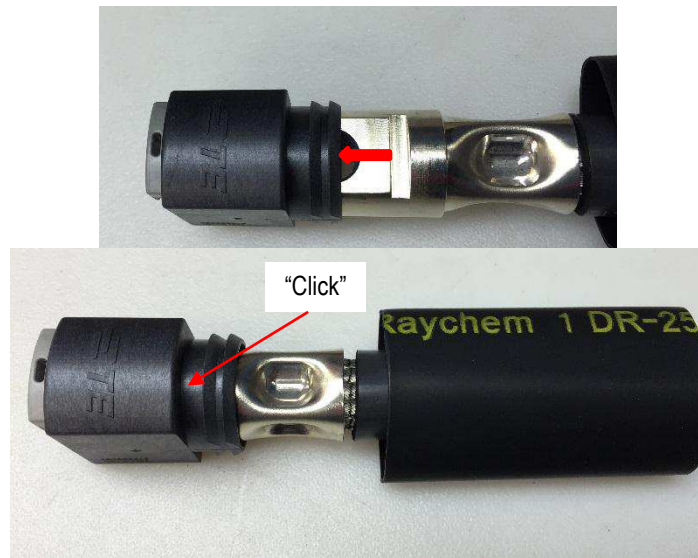

Figure 8
2. Insert the socket housing sub-assembly into the socket contact until it latches with an audible and tactile “click”. The top part of the socket contact features a large flat and latching ledge. Use these features to align to the housing before full assembly. Socket can only be assembled one way into the housing. See Figure 8.